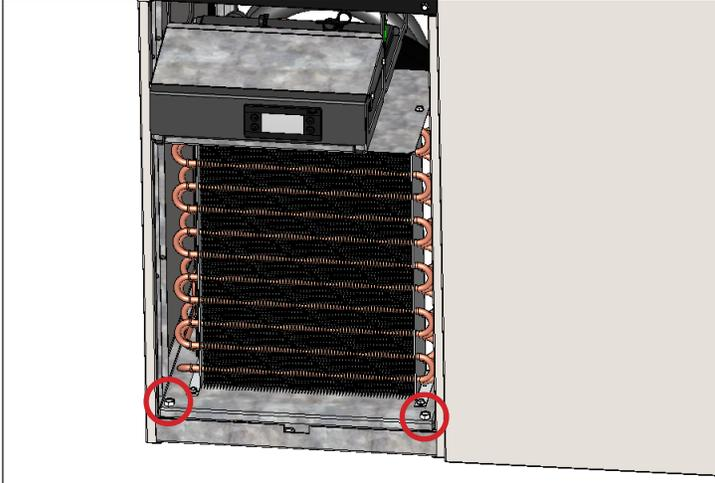

Fig. 4. Remove condenser base bolts.
6. Remove the condenser base bolts. See fig. 4.